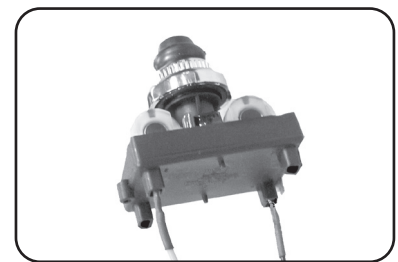

Fig. 38-2 Spark generator
9. Reinstall the top panel. See the TOP PANEL REMOVAL section. When connecting the igniter wires, the wires can be plugged into any terminal (Fig. 38-2).